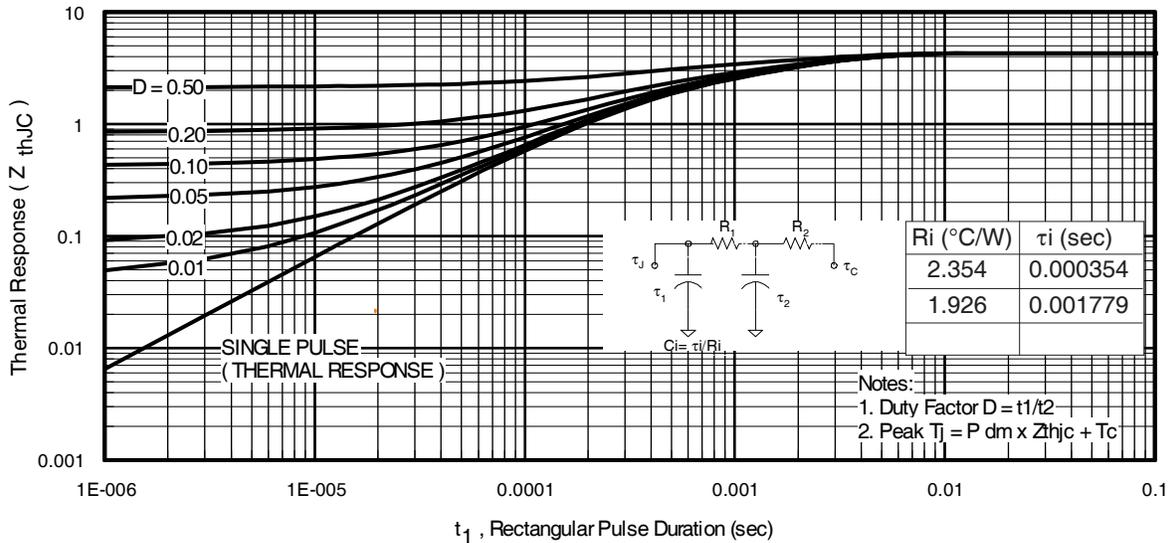
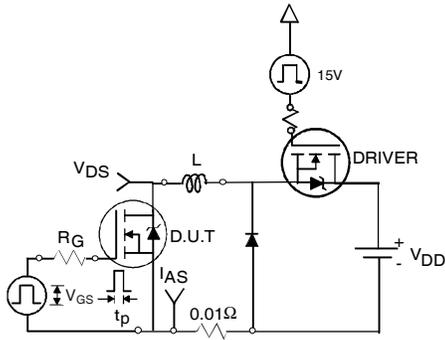

Fig 11. Maximum Effective Transient Thermal Impedance, Junction-to-Case
Fig 12a. Unclamped Inductive Test Circuit
- ① Repetitive rating; pulse width limited by max. junction temperature. (See fig. 11).
- ② Limited by T_{Jmax} , starting $T_J = 25^\circ\text{C}$, $L = 0.54\text{mH}$, $R_G = 25\Omega$, $I_{AS} = 9.6A$, $V_{GS} = 10V$. Part not recommended for use above this value.
- ③ Pulse width $\leq 1.0\text{ms}$; duty cycle $\leq 2\%$.
- ④ $C_{oss\ eff.}$ is a fixed capacitance that gives the same charging time as C_{oss} while V_{DS} is rising from 0 to 80% V_{DSS} .
- ⑤ Limited by T_{Jmax} , see Fig.12a, 12b, 15, 16 for typical repetitive avalanche performance.
- ⑥ This value determined from sample failure population, starting $T_J = 25^\circ\text{C}$, $L = 0.54\text{mH}$, $R_G = 25\Omega$, $I_{AS} = 9.6A$, $V_{GS} = 10V$.
- ⑦ When mounted on 1" square PCB (FR-4 or G-10 Material). For recommended footprint and soldering techniques refer to application note #AN-994.
- ⑧ R_θ is measured at T_J of approximately 90°C .
3. Equation below based on circuit and waveforms shown in Figures 12a, 12b.
$Z_{thJC}(D, t_{av})$ = Transient thermal resistance, see figure 11)